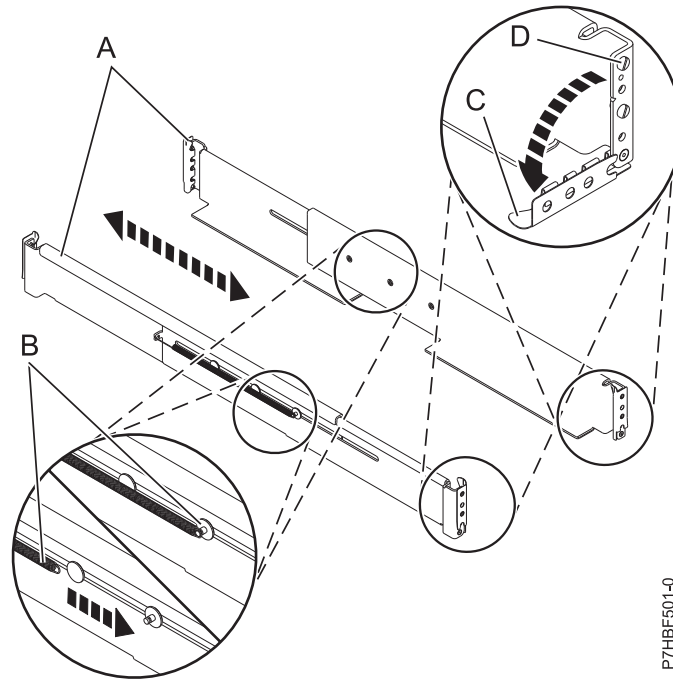

Figure 5. Installing the rails
3. Rotate down the front and back clamps (C) on the left and right rails as shown in Figure 5 on page 8.
4. On each rail, remove the tape that is holding the spring **(B)** to the rail. Hook the end of the spring around the circular standoff on the rail as shown in Figure 5.